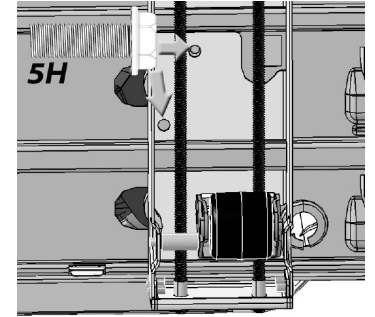

Fig. 6
- Using a 5H bolt and a power drill, fasten the bottom of the Leveler Assembly with a  $\frac{3}{8}$ " hex drill bit in whichever hole overlaps the screw hole (Fig. 6).